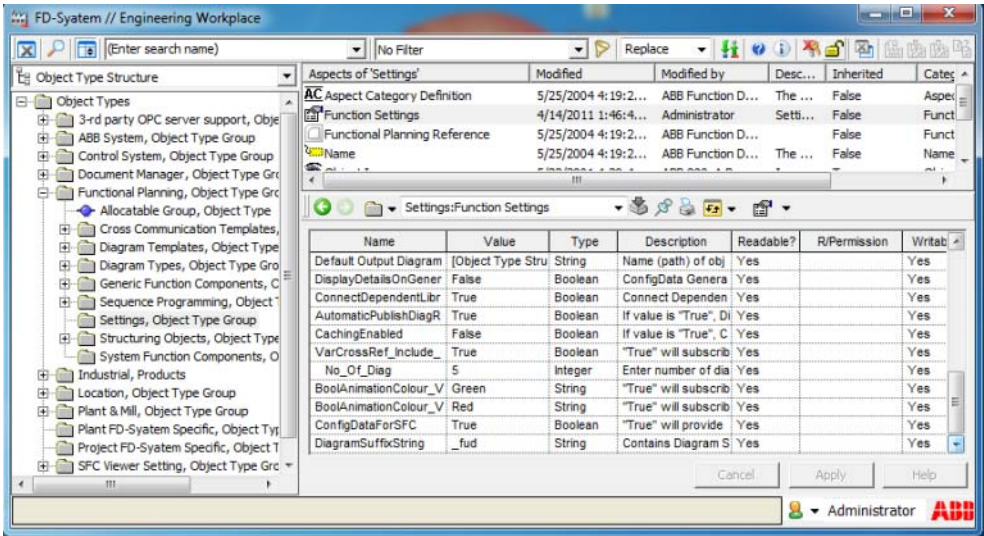

Figure 19. Function Settings with ConfigDataForSFC property
- 1. Open the **Object Type Structure > Function Planning > Settings > Function Settings** aspect (refer to Figure 19).
To ensure that naming conventions are followed for diagrams, the property `DiagramSuffixString`, available in **Object Type Structure > Function Planning > Settings > Function Settings** aspect, can be used (refer to Figure 19). Set the required suffix in the Value column. This suffix can be used as reference while creating diagrams.